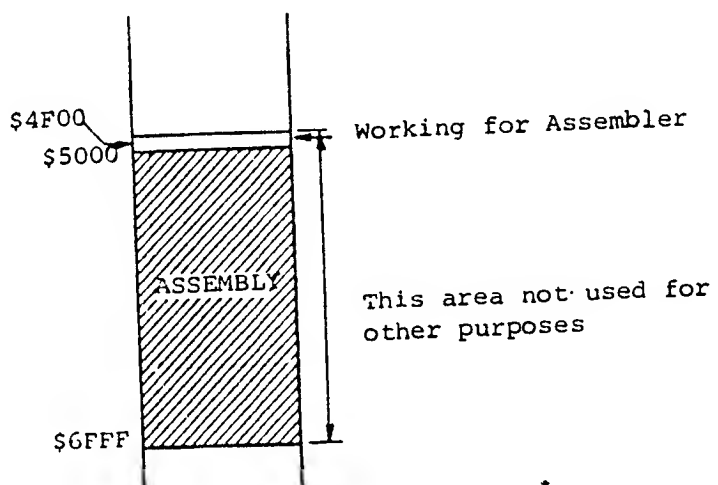

Figure 2-1-1 Storage Area for Assembler
- 2) The address area of &H4F00 to &H4FFF can be used as working area. Therefore, the memory area shown in figure 2-1-1 cannot be used for other purposes. The memory allocation with Debugger and BASIC should be referred in detail to Section 2-1 in Chapter 1 called Memory Map.